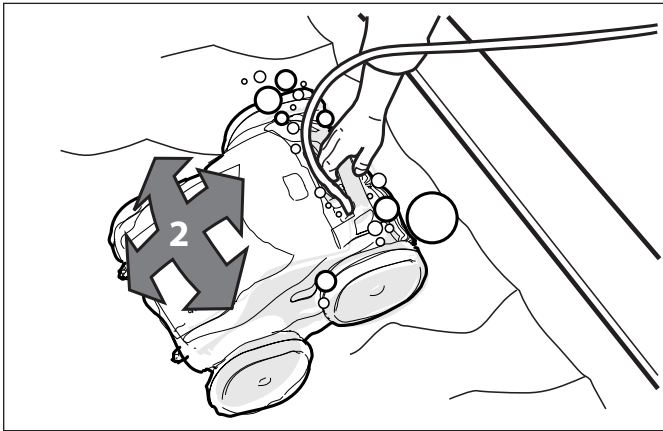

Figure 12. Cleaner Sinking to the Bottom of the Pool
2. At the center point, submerge the cleaner in the pool and hold in the vertical position to release any air trapped inside. (Figure 12).